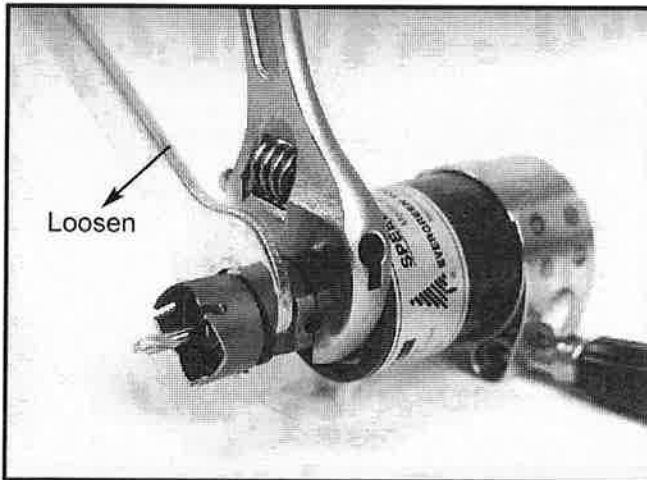

Fig. 10
**Method 1:** Two 1" wrenches can be used (**FIG. 10**); one to hold the output adapter and a second to turn the loosening hex washer counterclockwise. Once broken loose, the cutter is removed with your fingers.